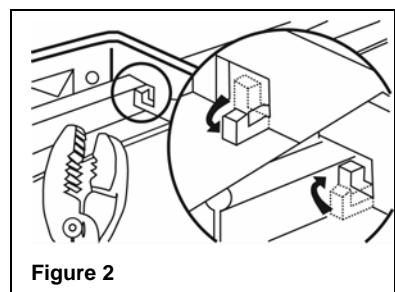

Figure 2
Suspended Ceiling Installation: Locate the four (4) T-bar slots near the end of the bar hanger (See Figure 2). Bend tabs out, slip the hanger bar over the T-bar and press the tabs back against the T-bar to hold it in place (See Figure 2).